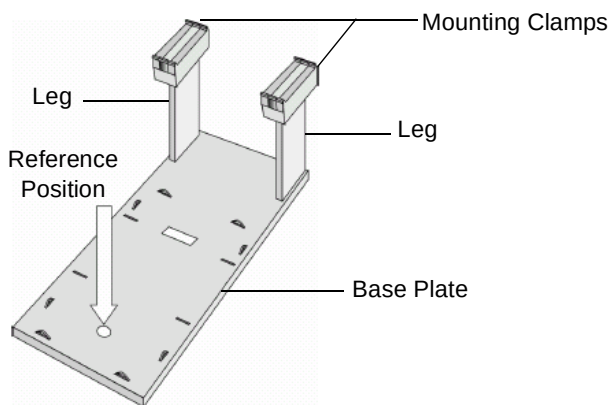

Figure 2-40 Tray Holder Reference Position
4. Center the lower needle guide in the reference position (the hole in the base plate of the holder, Figure 2-40) as follows:
4. Center the lower needle guide in the reference position (the hole in the valve needle guide fitting of Port 1, Figure 2-40) as follows: